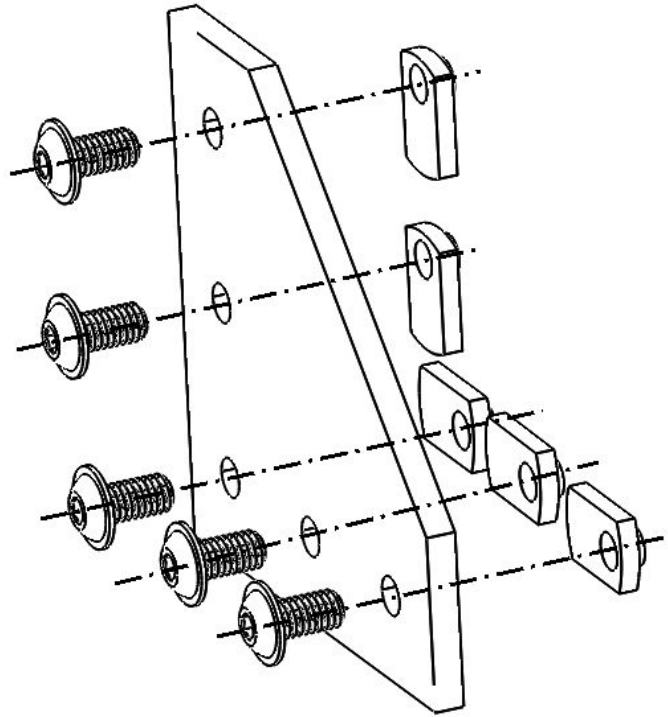

Fig. 3.18: 5 holes corner bracket with end feed fasteners
- In each hole put an end feed fastener as seen in Fig. 3.18